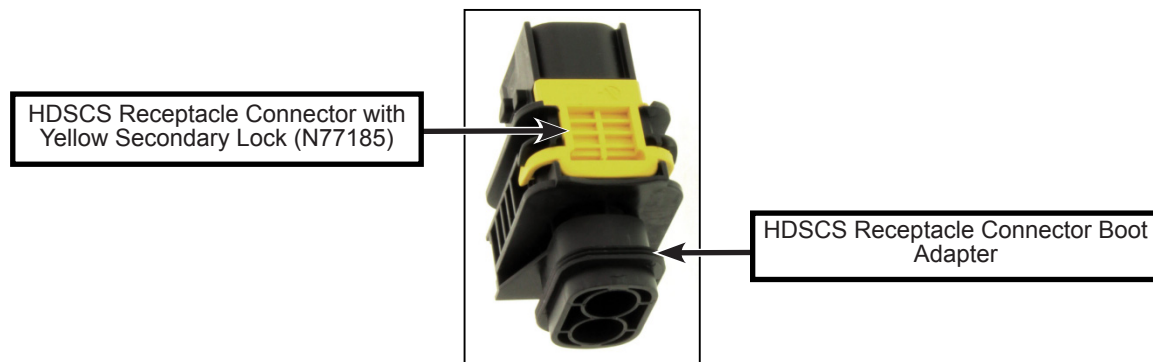

Figure 15 - TE Connectivity HDSCS Receptacle Connector
- 1.28. Insert the RED wire into position 1 and the BLACK wire into position 2 of the HDSCS receptacle connector PN N77185. Make sure that the yellow secondary lock of the receptacle connector is completely pressed (to move it from the unlocked to the locked position) after inserting both terminals (see Figure 15). Refer to Annex 2 for detailed instructions about terminals insertion and secondary lock.